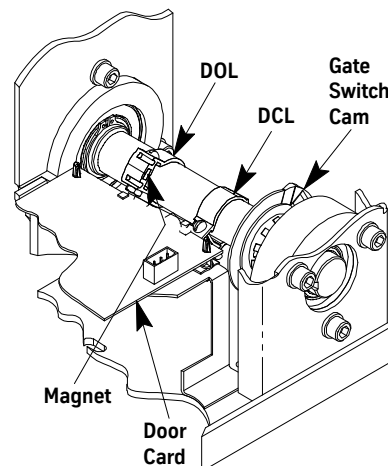

Figure 6 - Door Operator Cams
2. Manually move the door to the fully closed position, noting which direction the cam shaft rotates. See Figure 6.